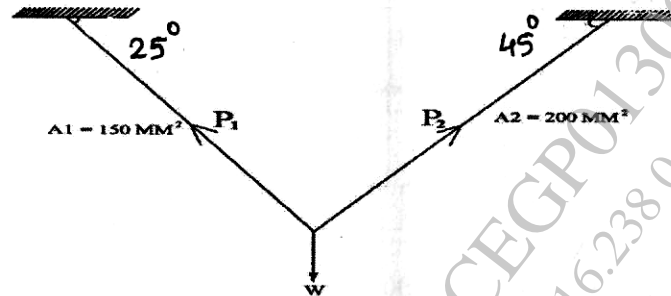

Fig. 1
1. (a) Determine the maximum weight W that can be supported by two wires as shown in Fig. 1, if the stress in each wire is 120 N/mm^2 . [6]